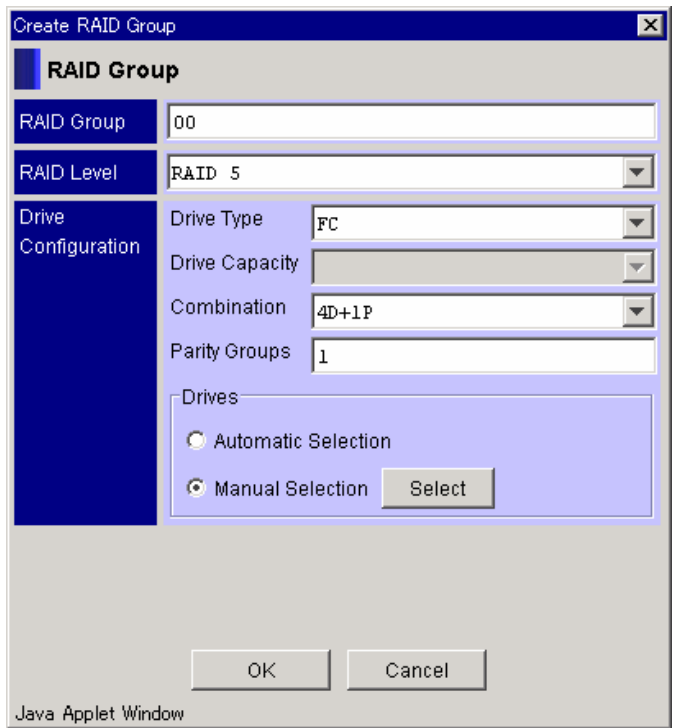

Figure 5.6 Create RAID Group Dialog Box
3. Enter the settings in the Create RAID Group dialog box. See Figure 5.6.
- In **Drives**, in the Select Drives dialog box, select the **Manual Selection** option, and click **Select**. See Figure 5.6.